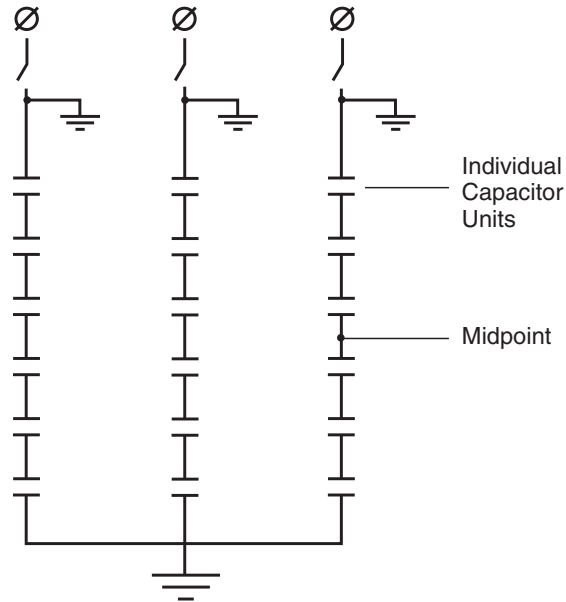

Figure 8. Grounded capacitor bank
1. Ground the incoming phases and the neutral as shown in Figure 8. (See **Safety precautions** section on page 2.)